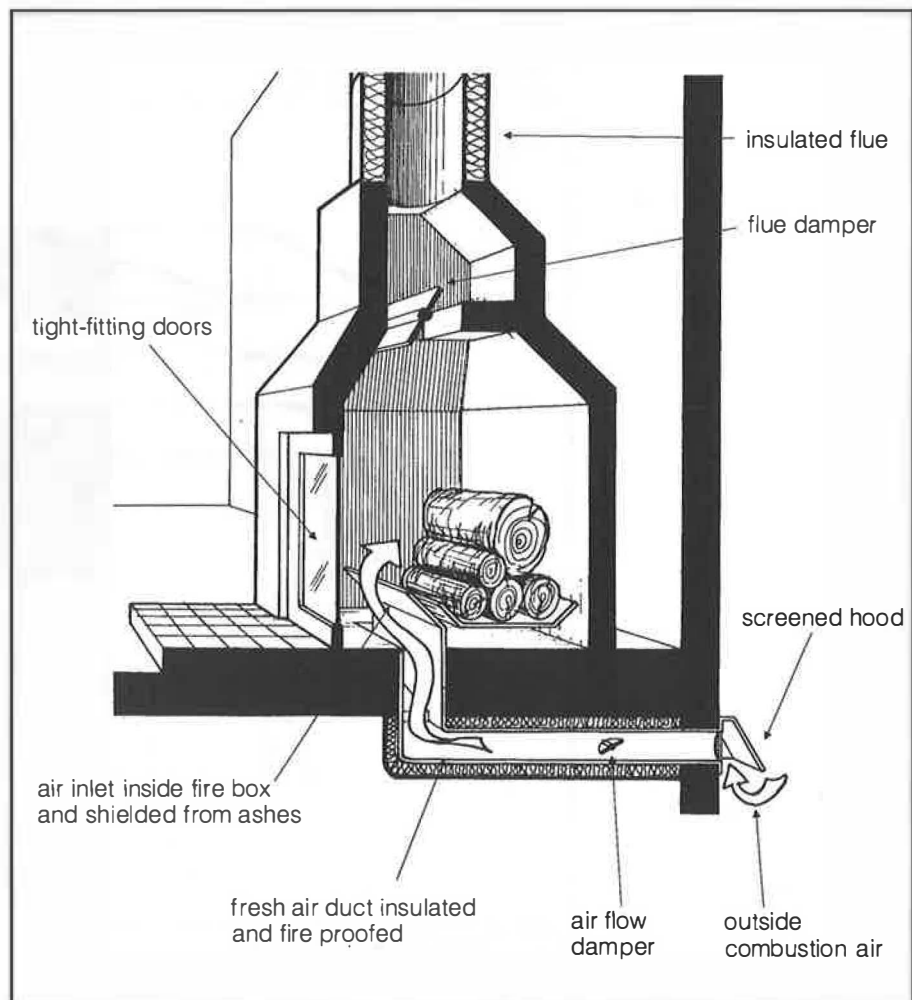

Fig. 6. Zero-clearance fireplace with outside combustion air feed
- Provide a dedicated outside combustion air supply and tight-fitting doors for each wood-burning appliance. The best method for doing this is to supply combustion air directly to the fire box (see fig. 6).